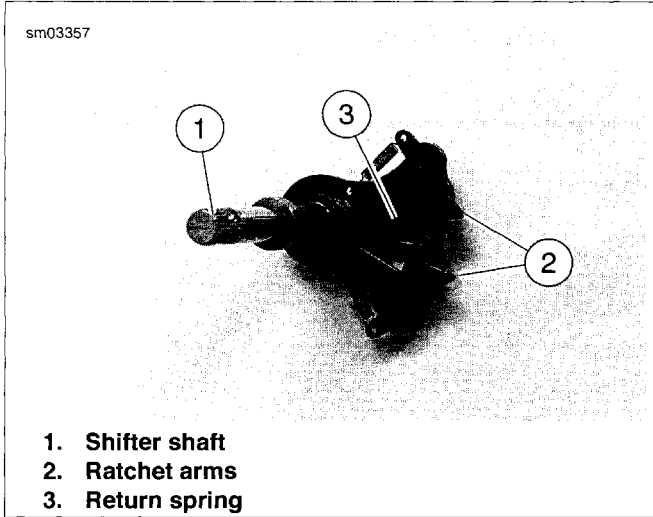

Figure 5-52. Shifter Shaft Assembly
10. See Figure 5-52 and Figure 5-53. Compress the ratchet arms (item 2, Figure 5-52) in order to clear the shifter drum, and remove shifter shaft assembly from left crankcase half.